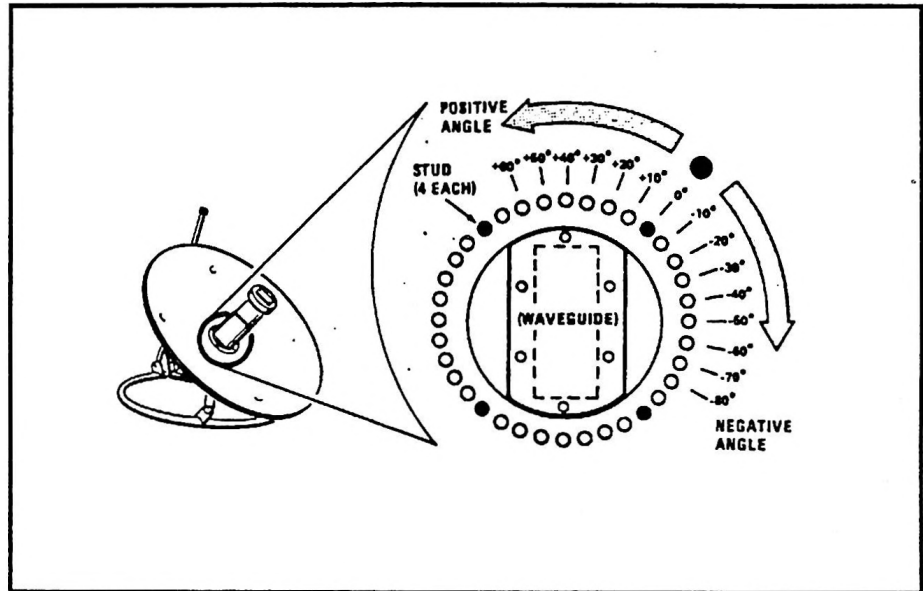

Figure 4-14. Polarization Angle Adjustment
3. Count the mounting holes from the 0-degree reference on the reflector to the hole nearest the polarization angle determined in Step 1. For negative angles, count clockwise from the 0-degree reference. For positive angles, count counterclockwise from 0 degrees. The holes are spaced at 10-degree intervals (See Figure 4-14).
- 2) Refer to Figure 4-14 and mark the mounting surface (3) at the point of the highest reading.
- 3) Align the mounting ring reference (1) with point (3) and secure the mounting ring clamps.